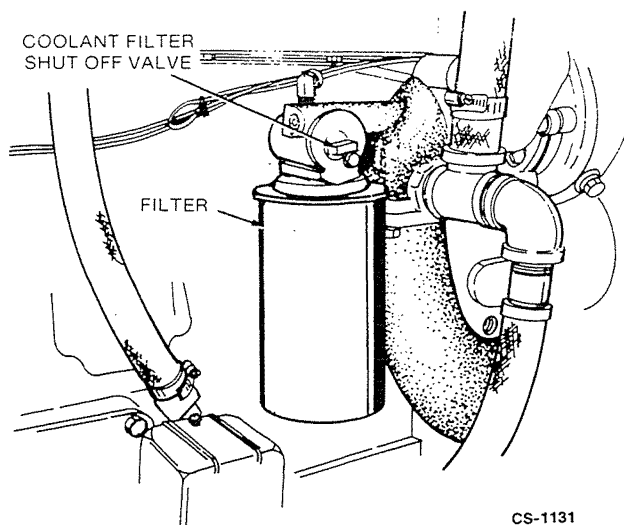

FIGURE 18. WATER FILTER
1. Close the shutoff valve on the top of the filter head (see Figure 18).